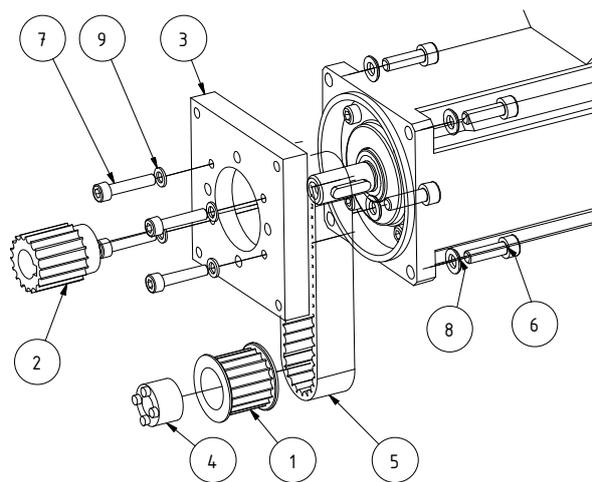
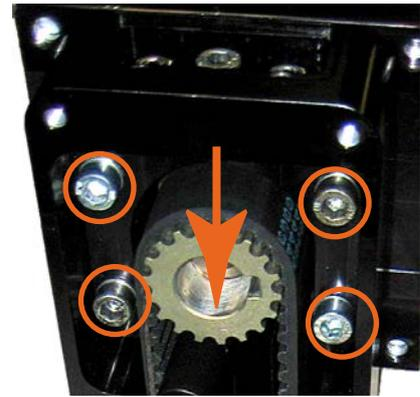

Figure 19: Parallel drive
Figure 20: Release toothed belt tension
- ◆ Slightly loosen 4 screws (please refer to Figure 19: Parallel drive Pos.7), by 1 to 2 turns (please refer to Figure 20: Release toothed belt tension).
- ◆ Remove 4 screws completely (please refer to Figure 19: Parallel drive Pos. 7).
- ◆ Dismantle motor / gearbox flange (please refer to Figure 19: Parallel drive Pos.3) by loosening the screws (please refer to Figure 19: Parallel drive Pos.6).
- ◆ Mount motor / gearbox flange (please refer to Figure 19: Parallel drive Pos.3) with the screws (please refer to Figure 19: Parallel drive Pos.6 & Pos.8).
- ◆ Screw in 4 screws (please refer to Figure 19: Parallel drive Pos.7) until the motor flange fits. Do not yet tighten.